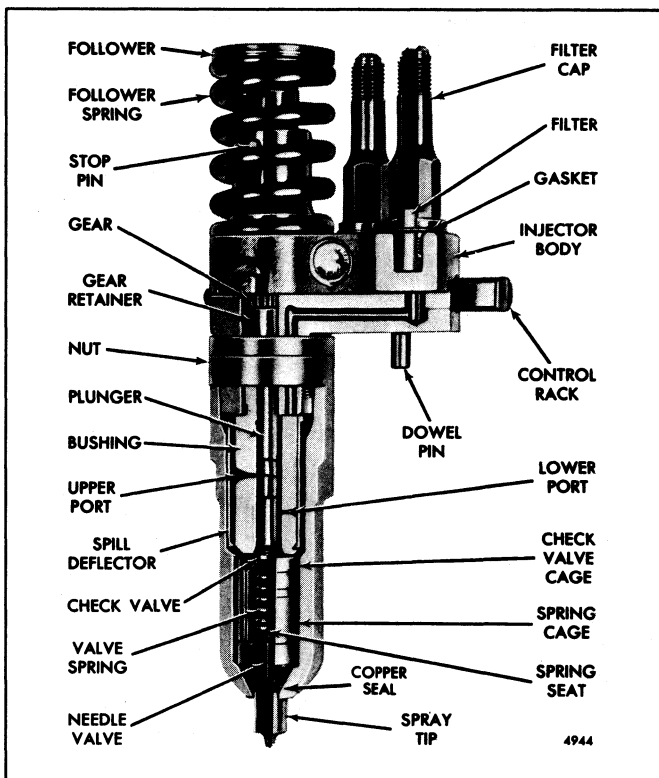

Fig. 26 - Cutaway View of Fuel Injector
- 17. Put the needle, tapered end down, into the spray tip (Fig. 26). Then, place the spray tip assembly on top of the spring cage with the quill end of the needle valve in the hole in the spring cage.